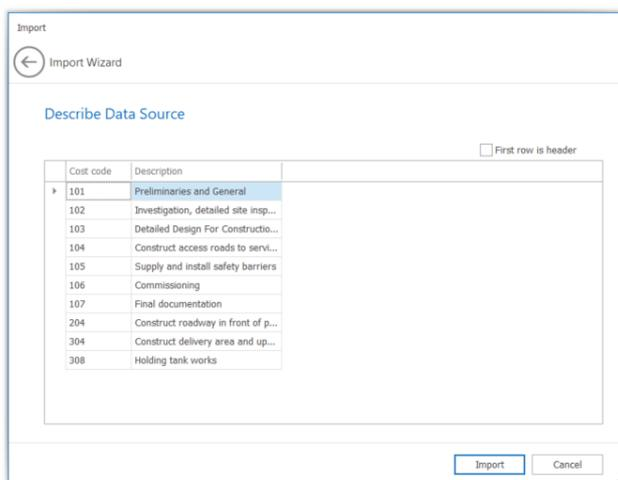

Figure 19 Assigned Headings
4. Assign headings by right clicking on each column header (where it currently says Column 00, column 01 etc.) and in the menu that pops up, select *Cost Code*. The heading of the column will change to reflect the selected description. Do this for all remaining column (heading name = *Description*). When you have assigned all the necessary column headings your grid should appear something like it does in Figure 19.